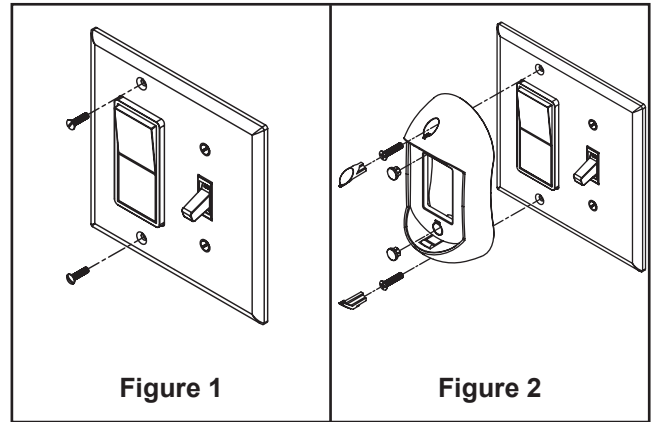

**Figure 2**
**4. Operating & Using Remote Transmitter (Figure 2):**
(Including in the control).(Figure 2)